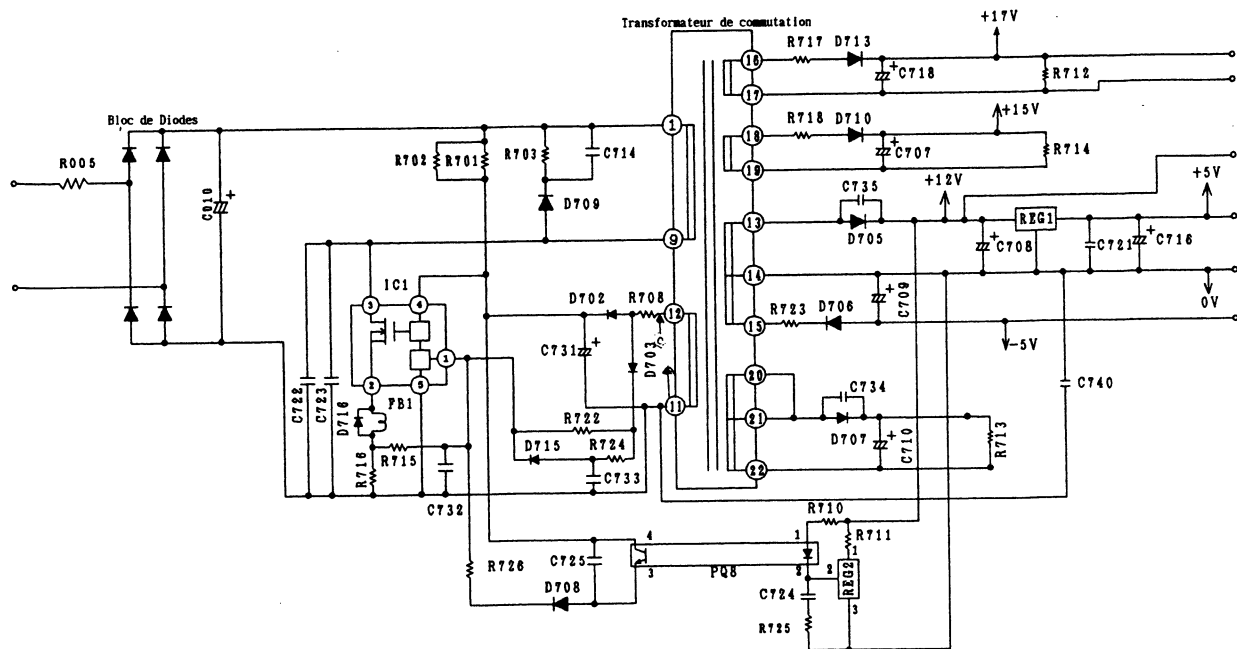

Fig. 4-1 Circuit d'alimentation pour le circuit imprimé.
(1) Shifting from OFF to ON
- DC about 330V is applied from smoothing capacitors C010 ⊕ and ⊖ in the control power circuit. With this power, current flows to pin ④ of IC1 via R701 and R702 and IC1 starts to turn ON. Since voltage in the direction of arrow generates at point ③ at the same time, current passing through R708 and D702 is positive-fed back to IC1.
- La figure 4-1 représente le circuit d'alimentation pour le circuit imprimé et la forme d'onde à chaque point.